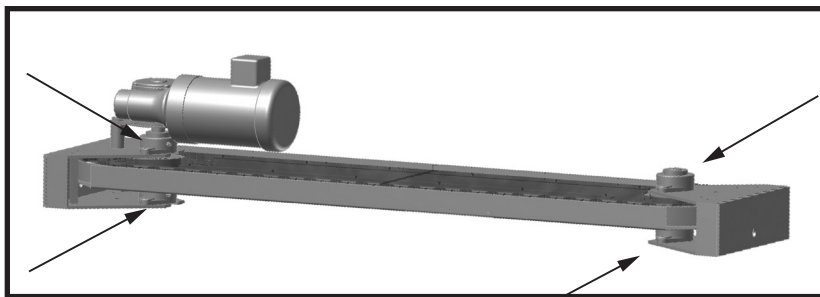

Figure 2.1
3. Lube all (4) Zerk's every three months of use (see figures 2.1, 2.2).